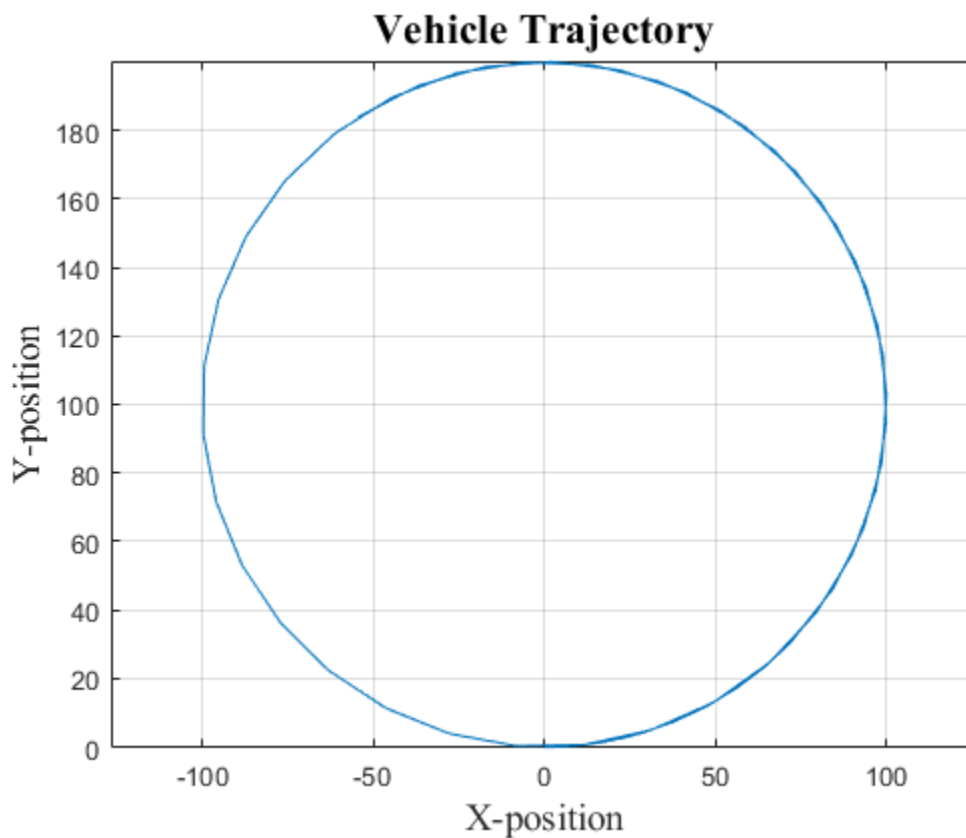

Fig 1.4 The plot of the result
1.3 Finally, set up your HW5_initialization script such that it automatically runs the Simulink model, and plots the results of the position of the vehicle in an X-Y plot. Fig 1.3 shows the Local2Global in Simulink. Fig 1.4 shows the plot of the result. The script is shown at the end of the report.
this corresponds to the simulation results, as it is shown in Eq 10 and Fig 1.4. The calculation process is shown in task 1.2.